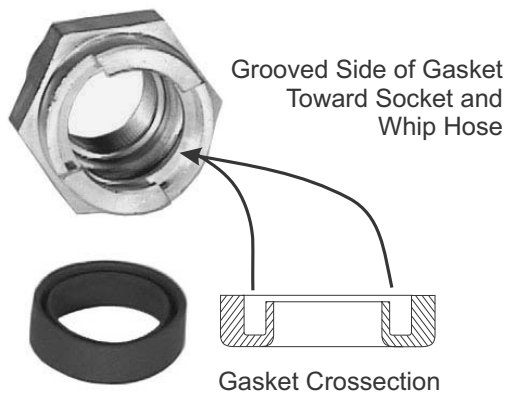

Figure 9-23. Install Gasket in Q.D. Socket.
1. With the grooved face of the Gasket (21) toward the Quick Disconnect (Q.D.) Socket (20) and Whip Hose (18), insert the new Gasket (21) into the Socket (20). Check that the gasket seats properly. Refer to Figure 9-23.